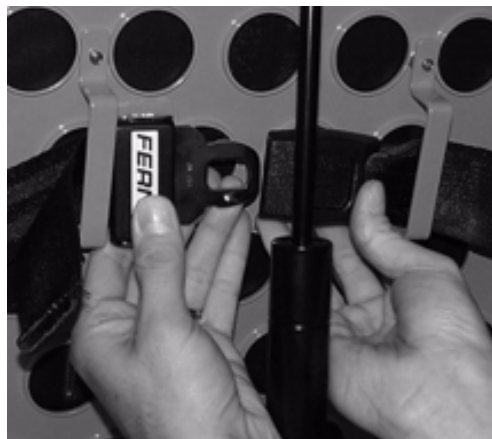

Figure 14 - Fastening the Pedi-Mate™ Buckle
4. Wrap the straps around the backrest and insert the ends of the straps through the brackets. Securely fasten the buckle (see Figure 14).